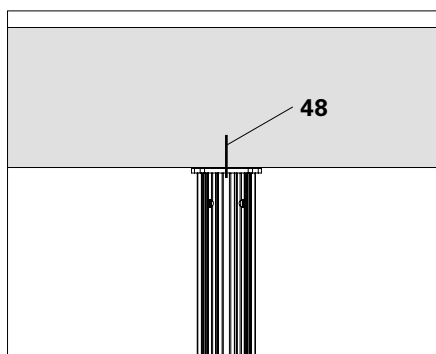

Fig. B1.02e
4. Secure the head of the MULTIPROP MP (44/45) in position in the concrete slab with Dowels  $\varnothing 12$  (48). (Fig. B1.02e)